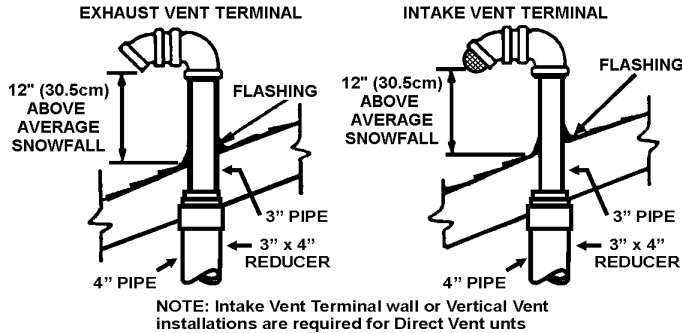

FIGURE 11.
The specifications are displayed in Figure 11.
6. Terminate intake terminal and exhaust vent terminal facing down. See Figure 11.